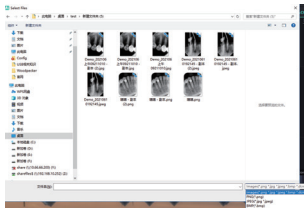
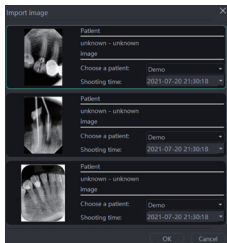

Figure 25
Figure 26
b) Importing files. After entering the software, click the “Acquisition” button. Select the “File Import” device type and click “Import” to enter the image selection interface. The software supports the import of images in PNG, JPG, JPEG, BMP, DCM and other formats, as shown in Figure 25. After selecting the image, click “OK” to enter the “Import image” interface, as shown in Figure 26. You can select the target patient and shooting time for each image, and click “OK” to save the image to the specified patient.